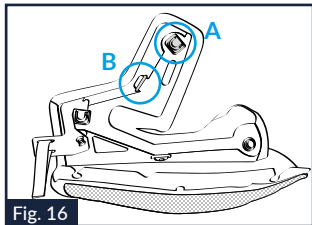

Fig. 16
- 13.2.** Unhook the rear frame eyelet of the cheek pad in line with the top hook "A" shown on its back (Fig. 16).
- 13.3.** Take the top flap "B" of the frame out of the loop on the back of the frame (Fig. 16).
- 13.6.** Put the top flap "B" of the frame back in the loop on the back of the cheek pad and refasten the eyelet in line with the top hook "A" on the back (Fig. 16).
- 14.2.** Unhook the rear frame eyelet of the cheek pad in line with the top hook "A" shown on its back (Fig. 16).
- 14.3.** Take the top flap "B" of the frame out of the loop on the back of the frame (Fig. 16).
- 14.5.** Put the top flap "B" of the frame back in the loop on the back of the cheek pad and refasten the eyelet in line with the top hook "A" on the back (Fig. 16).